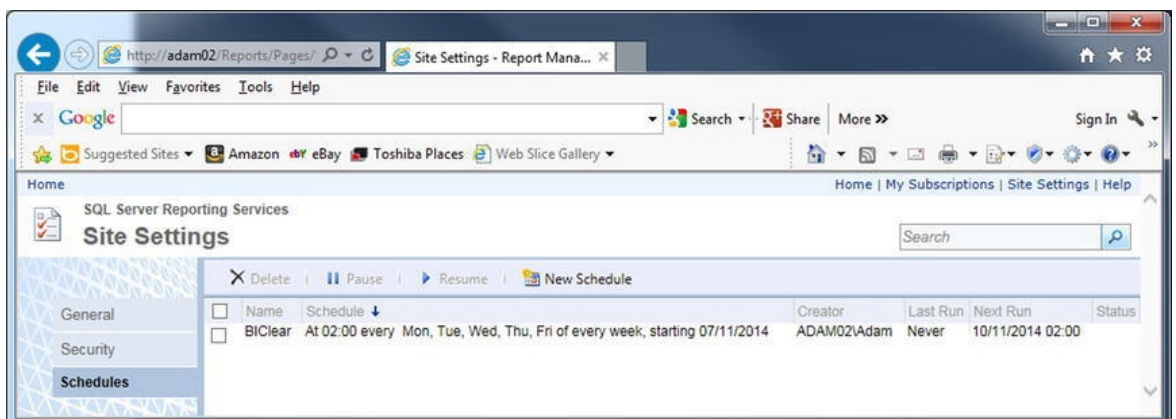

Figure 12-13. Site settings showing a shared schedule
8. Click OK. You will return to the Site Settings web page, which will look like Figure 12-13.